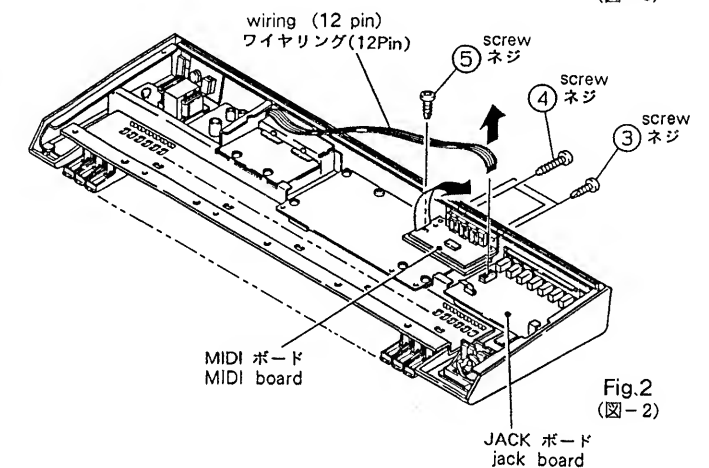

Fig.2
2) Loosen (3) 2 screws (short), (3) 2 screws (long) and (5) 1 screw on the rear panel and remove the MIDI board from the panel. Remove the wiring (12 pin) of the jack board and place the MIDI board on the jack board. (Fig.2)